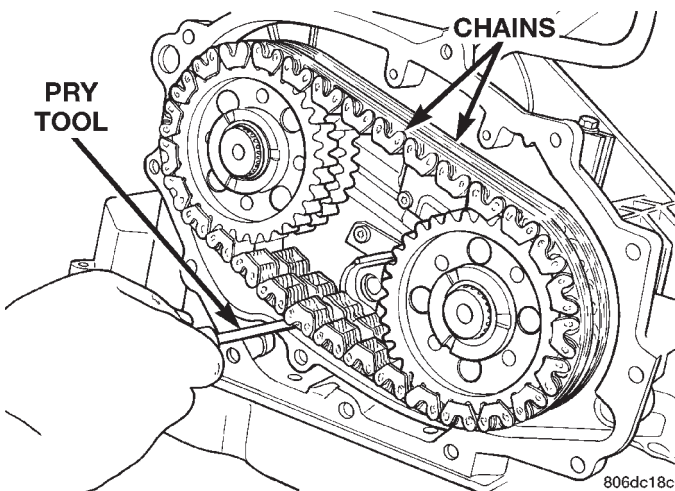

Fig. 303 Screwdriver Placement
(4) Insert a screwdriver into the 18 mm hole with the screwdriver **BELOW** the chains (Fig. 303). An assistant may be needed to perform this step.